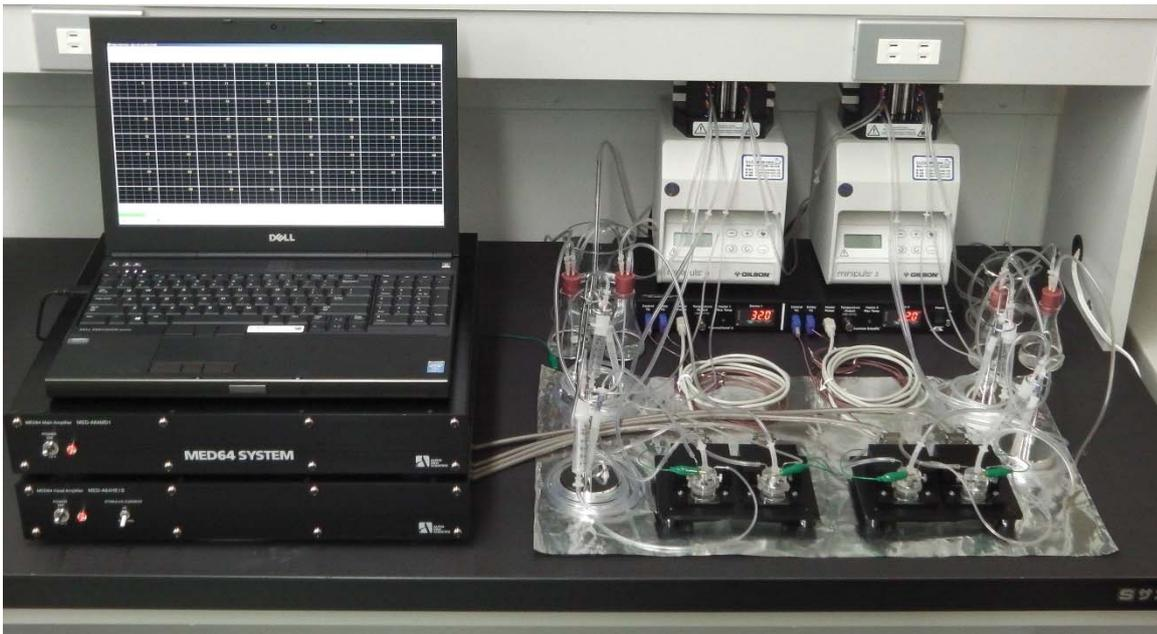

Figure 3-12. MED64 Quad II System with perfusion installed on a lab bench.
5. Install perfusion tubes for other 3 Probes/Connectors. The Figure 3-12 shows the MED64-Quad II installed with perfusion system.